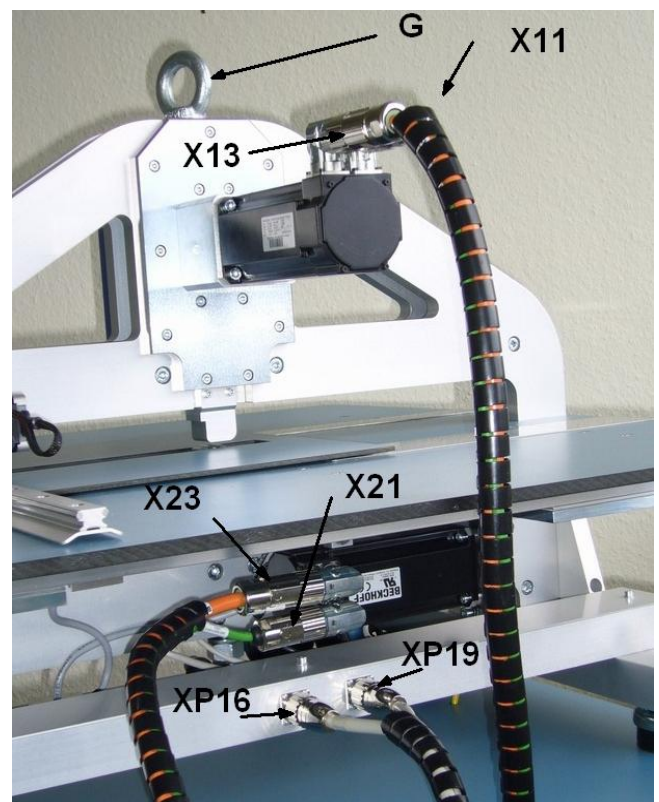

Figure 9: Connectors of Embossing Unit
17. connect the cables XP16 and XP19 to the plugs in the cable canal (Figure 9) and screw the body's of the plugs
18. connect the cables XP11 and XP13 (the longer cables) to the plugs in the embossing motor (Figure 9) and screw the body's of the plugs
19. connect the cables XP21 and XP23 (the shorter cables) to the plugs in the X-motor under the embossing table (Figure 9) and screw the body's of the plugs